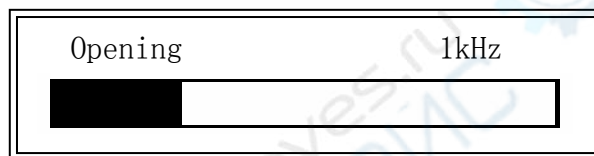

Figure 4-8. Open Correction Information
- 3) Press **OpSWP**. TH2816A will measure the open admittance (capacitance, and inductance) at all frequency points. Figure 4-8 shows the open correction information.